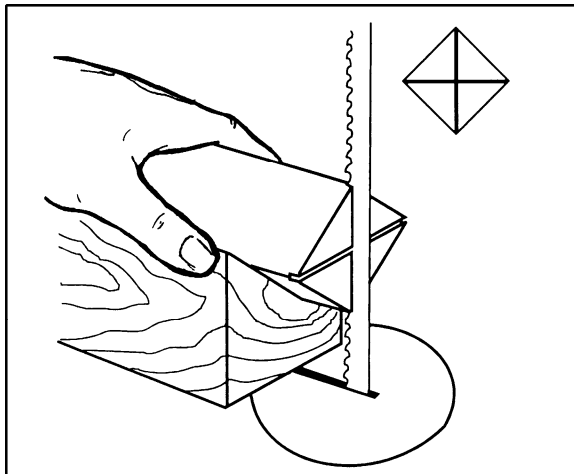

Figure 9-3
2. Extremely hard woods may require kerfs cut into the ends of the stock (Figure 9-3) using a band saw, so the wood will accept the spur center and the live center.